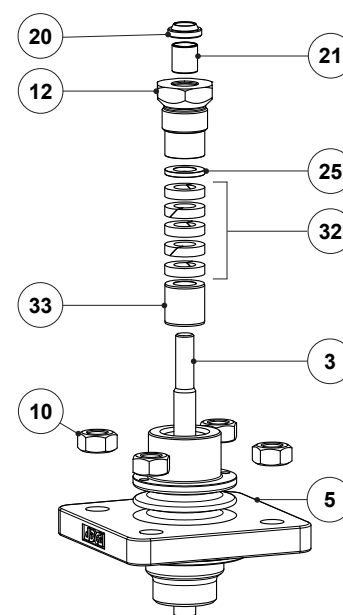

Fig. 11 - Graphite (G1)
1. Unscrew the lock nut (13) from the stem (7).
2. Unscrew the packing nut (12) and remove it carefully.
3. Carefully pull the plug (3) with plug stem (7) out of the bonnet (5) through its bottom. Inspect the stem surface and plug sealing surface, replacing if necessary.
4. Pull out the washer (25), graphite packing set (32), and spacer (33) using a suitable tool.
5. Clean the packing box and slide the stem (7) into the bonnet (5) once again.
6. Insert the spacer (33), and the new graphite packing set (32) rings one by one. When fitting the graphite rings ensure the scarf joints have an offset from the one below by 90°. See Fig. 11.
7. Renew the scraper ring (20) and plain bearing (21) if necessary.
8. Fit the washer (25), apply a slight smear of anti-seize lubricant to the plain bearing (21) and screw it loosely with your fingers until resistance can be felt. The packing must not be significantly compressed at this stage.